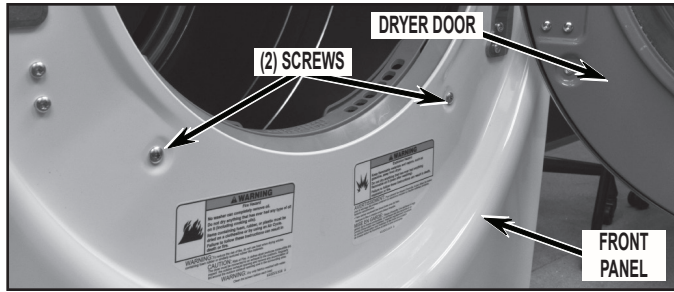

FIGURE 5
6. Begin removing front panel assembly by opening door and removing the two (2) screws shown in *Figure 5*.